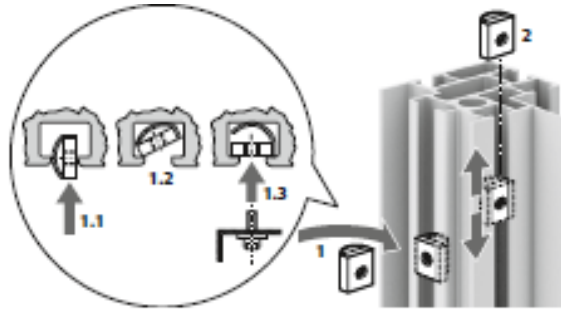

Figure 11 Inserting the spring nuts
- 4 Insert 3 diamond nuts into the groove of each horizontal member of the rack aluminum profile in the previously marked position (Figure 11).